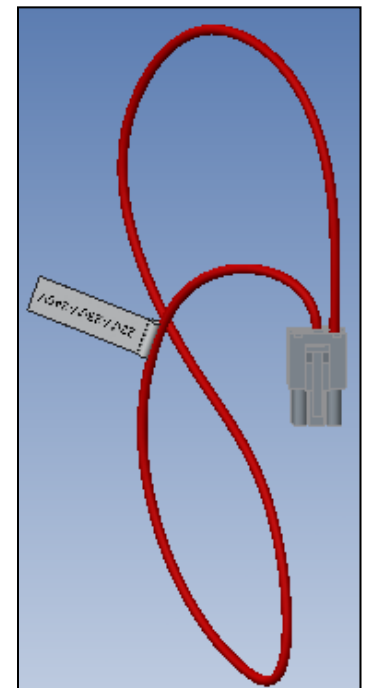

Fig. 3.10
- Connect the voltage selector switch (Fig. 3.10) in accordance with the mains power supply and the following table (Table 2).